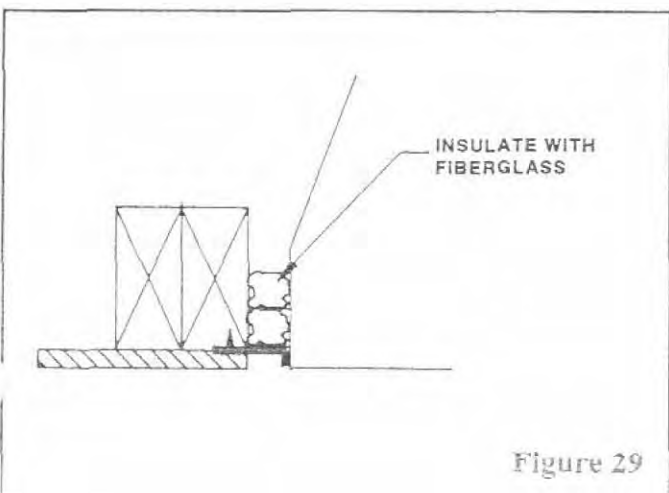

Figure 29
2) Insulate the gap left between the sides of the fireplace (see Figure 29). If the gap is too small to effectively insulate, it may be caulked with the high temperature silicone or equivalent caulking material.